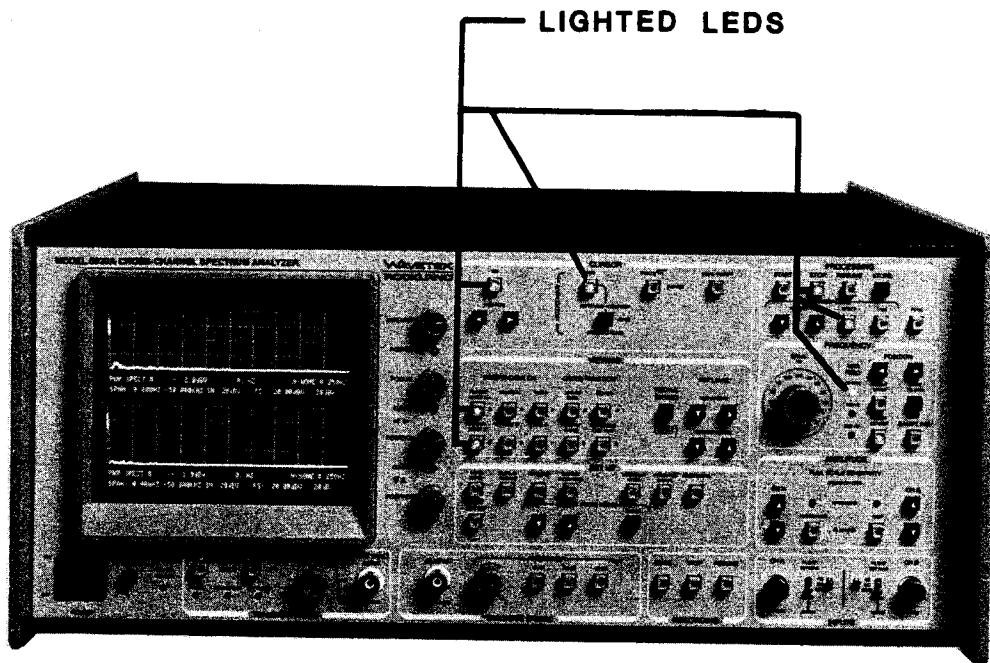

Fig. 3-3B Front Panel After Power-Up
- 3 - The CRT should briefly display a split-screen image similar to that shown in Figure 3-3B. Then the word "AUTOCALIBRATION" will appear momentarily (indicating that the 5820A is performing an autocalibration operation). Then the split-screen display should reappear. The 5820A front panel should appear as shown in the illustration, Figure 3-3B, below.
Press the RESET key located near the POWER switch. Everything about the front panel - the lit LEDs and the CRT display - should look exactly as they did when you first powered-up (as in Figure 3-3B). In fact, anytime you press RESET, the 5820A will assume this same preset status. We'll examine that in more detail in a few paragraphs. For reference, the Preset State into which the 5820A is placed by either initial powering-up or RESET is given in the table below: